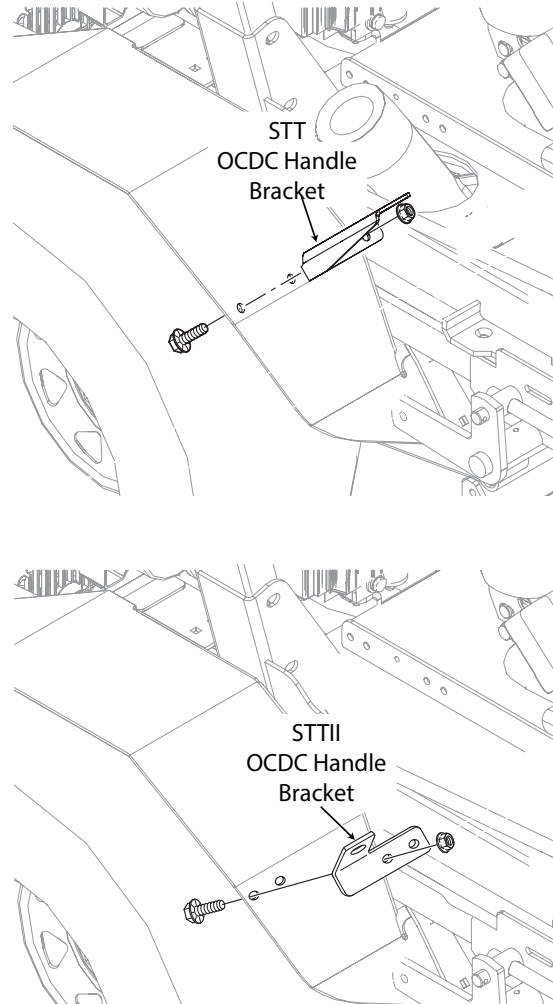

Figure 3-30. OCDC Handle Bracket Install
15. Install the OCDC handle bracket to the right side fender. See Figure 3-30. Secure using two (2) 5/16-18 x 3/4" serrated flange bolts and two (2) 5/16-18 serrated flange nuts as shown in Figure 3-30.